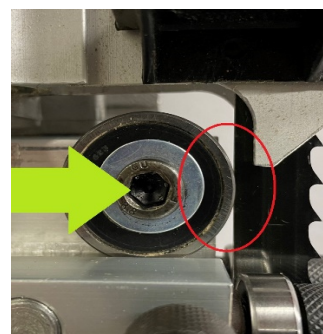

Figure 34
- Adjust depth of the guide with the bearing until it is in contact with the blade. (Fig 34)